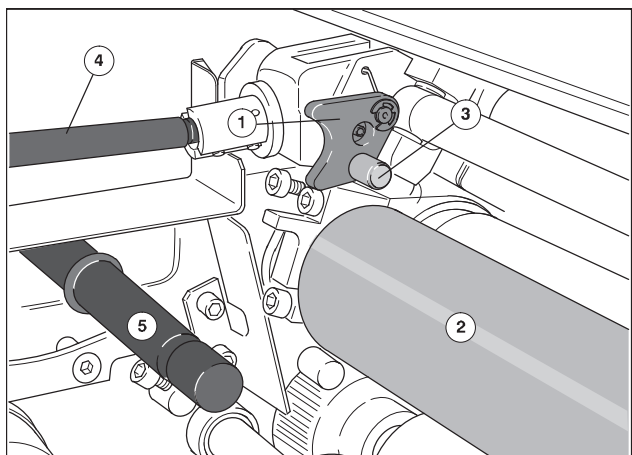

Fig. 13 Connecting the dampening system and the inking unit
2. Set the control knob for the dampening solution metering (Fig. 13/4) to position "5".
4. Detach the rear edge of the dampening solution pan from the two lateral support bolts (Fig. 13/5) and pull out of the press.
5. Raise levers (Fig. 13/1) on D.S. and O.S. simultaneously.
6. Press the dampening roller (Fig. 13/2) with the bolt (Fig. 13/3) downwards against the spring pressure, to connect the dampening system and inking unit.